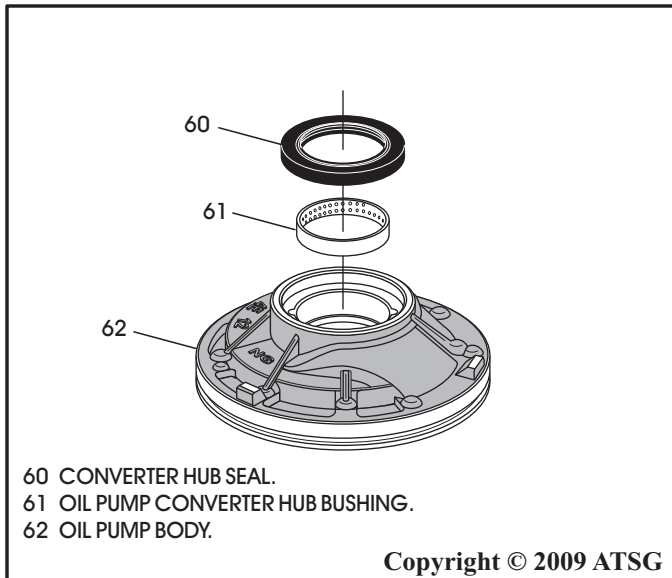

Figure 85
5. Install a new oil pump bushing as necessary, as shown in Figure 85, using the proper driver.
7. Install a new converter hub seal, as shown in Figure 85, using the proper seal driver.